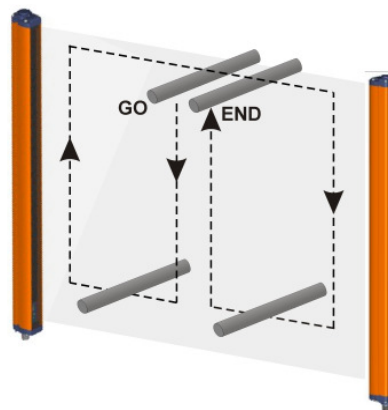

Fig. 11
- ESPE remains blocked (➡|) intercepting the beams along the protected area using the specific test piece, following the Fig.11 scheme.